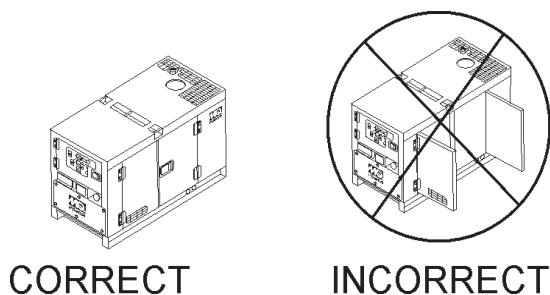

Figure 35. Engine Enclosure Doors
4. Close all engine enclosure doors (Figure 35).